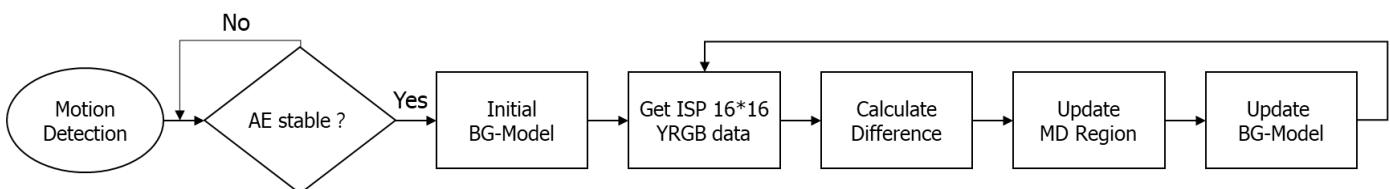

Figure 15-5 Motion detection architecture
Motion detection architecture is shown in Figure 15-5. First, it will confirm whether the value of the automatic exposure (AE) is stable. After stabilization, get 16x16 YRGB value to initialize the background model. The 16x16 YRGB value is calculated by averaging the RGB image generated by from video channel 4. After initialization, calculate the difference between the YRGB values and the background model and the average difference of the entire image. Use the difference information to determine whether to trigger motion detection and update the background model immediately.